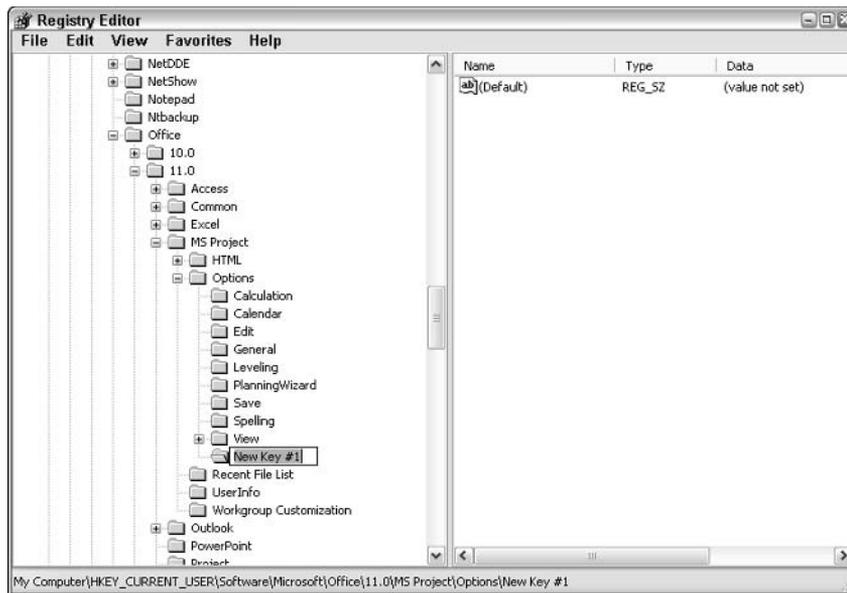

Figure 16-3: Add a key.
5. If you don't see a folder called `Workgroup`, you need to add it. Choose `Edit` → `New` → `Key`. You see a new folder in the left pane of the Registry Editor window (see Figure 16-3).